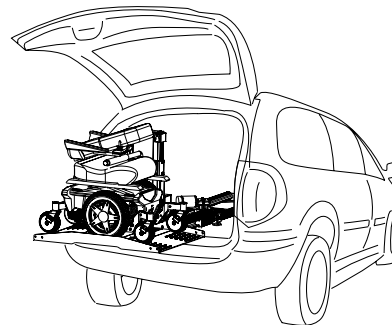

Figure 3-6
5. Double-check that the mobility device is secured properly on the platform. While holding the hand control, stand to the side and away from the lift. Press the “Up” button. When the platform stops retracting, release the button. The platform will automatically lock itself into a travel position. Close the door slowly, making sure that no part of the mobility device or other objects in the cargo area contacts the door. *See Figure 3-6.*